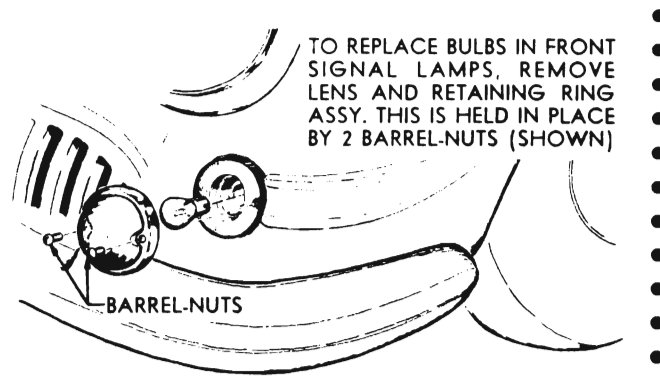

Fig. 12-54. Front Fender Lamp
Front direction signal lamps for indicating the driver's intention of turning to those approaching from the front, are incorporated in the parking lamps. See Fig. 12-54.
- To replace front signal lamp or parking lamp bulb, remove the two door screws and lift the cover off. See Fig. 12-54.